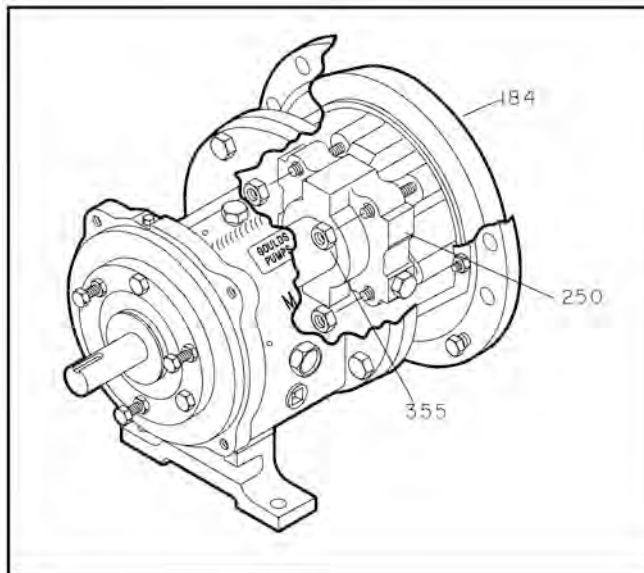

Figure 66:
27. Install the mechanical seal on the shaft (122) or sleeve, if used (126) per the seal manufacturer's instructions. Install the sleeve with the seal, if used.
28. Slide gland and then stationary seat, with gaskets, on the shaft or sleeve (Fig. 66).